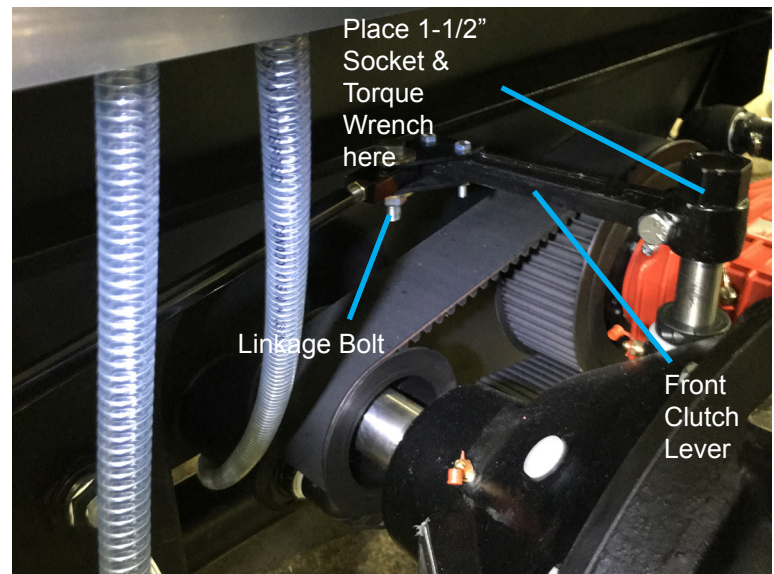

Fig. 23-1
- With clutch in the disengaged OFF position, remove actuator bolt from front clutch lever. See Fig. 23-1.